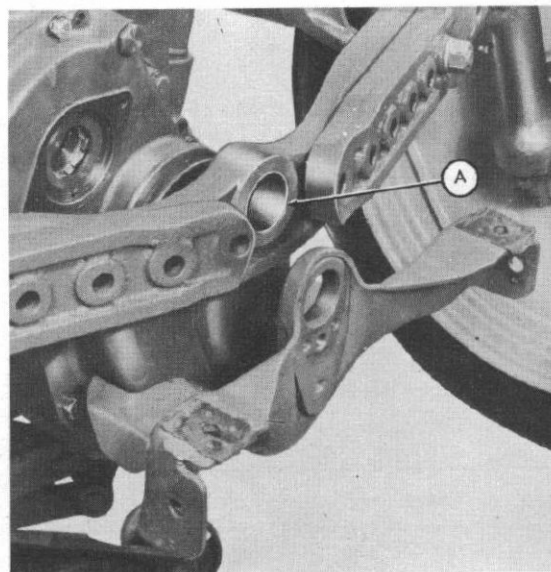

Fig. 3
- Step 5—Drive out the old bushing (A-Figure 3).